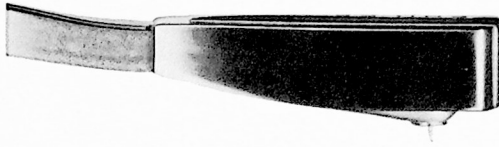

Figure 13. NEEDLE POSITION IN D-10A PICKUP
- The needle used with the D-10A changer should be pulled straight out with the fingers. There are no setscrews or locking devices. When replacing the needle, make sure that the needle is placed so that its bend is in the direction of record rotation. See figure 13. Push the needle in place, using finger pressure only.